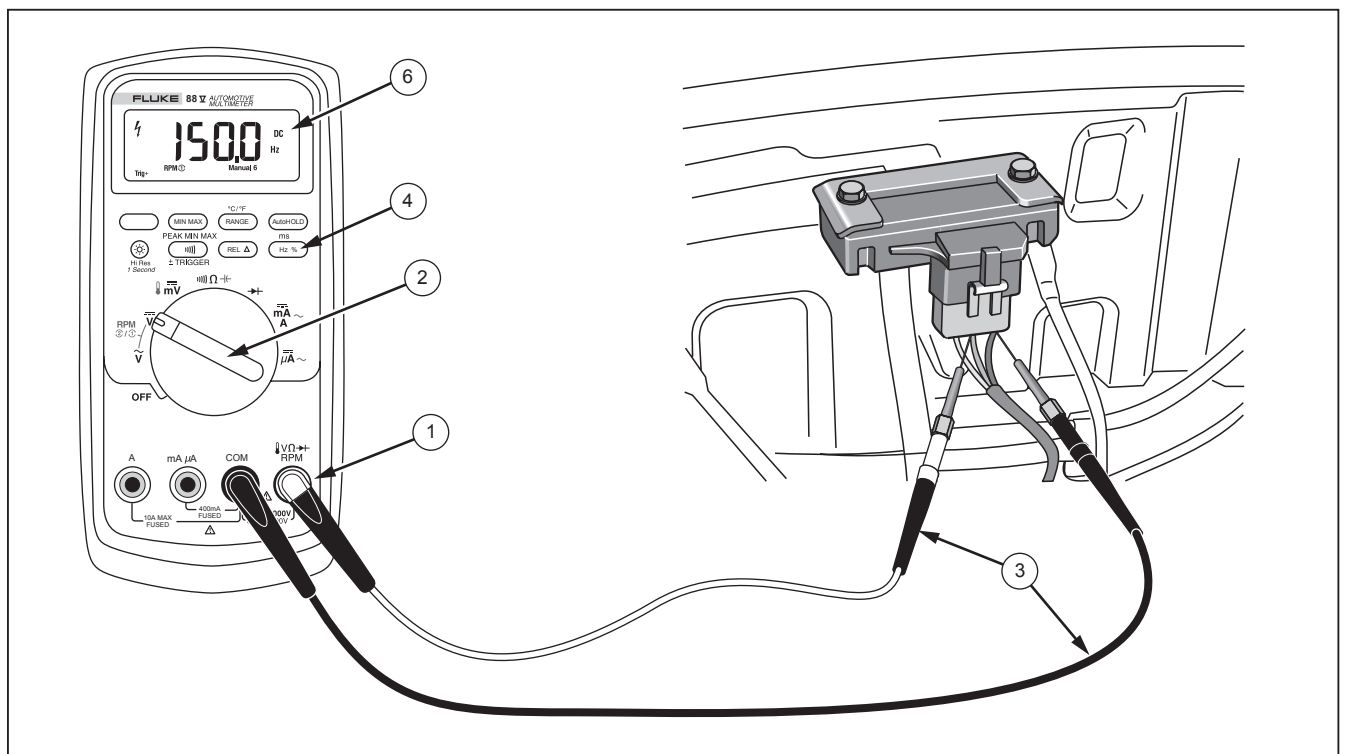

Figure 10. Testing MAP or BP/MAP Sensors with Frequency Output
1. Insert the test leads in the input terminals as shown in Figure 10.